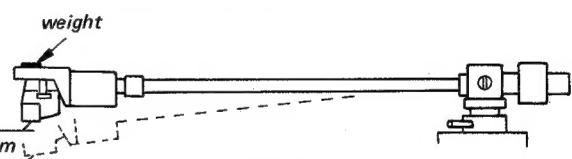
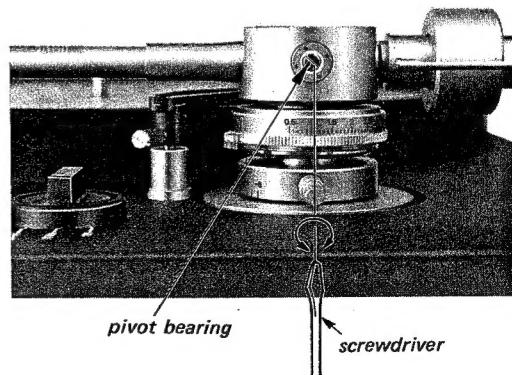

Fig. 7
Fig. 8
3) Install the tonearm, and make the balance adjustment with the two bearings. (Refer to Fig. 7 and Fig. 8.)